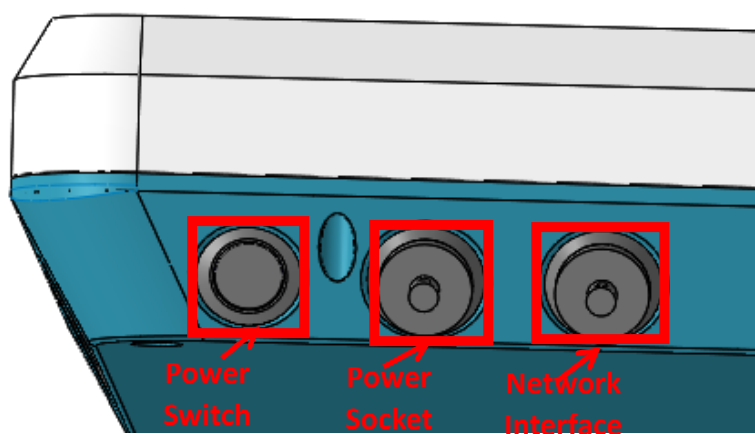

Figure 5-3 Power Switch/Power Socket/Network Interface
3. Connect the power cable to the power debugging interface of the Fixed Terminal. The power requirement is 100-240VAC 50/60Hz, as shown in Figure 5-3.